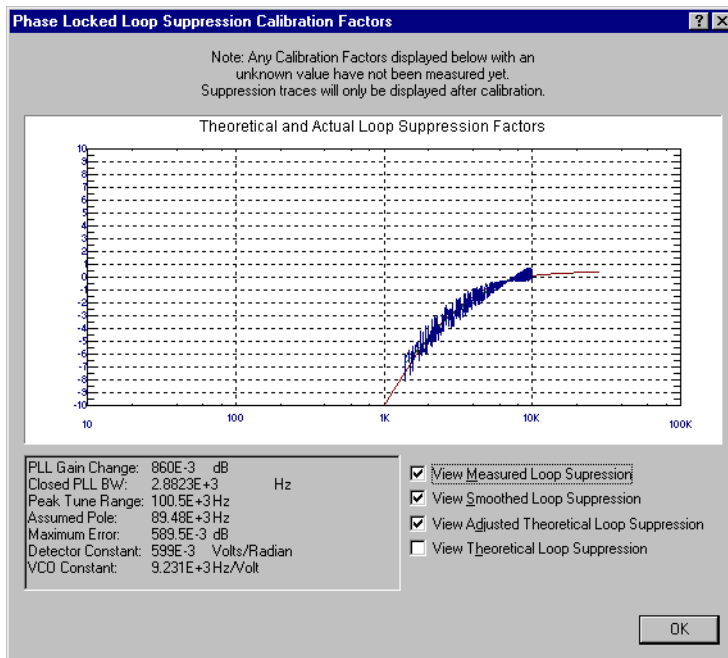

Figure 7-53 Selecting Suppressions
- 2 When the PLL Suppression Curve dialog box appears, select **View Measured Loop Suppression**, **View Smoothed Loop Suppression**, and **View Adjusted Loop Suppression**. See Figure 7-53.